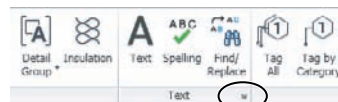

Figure 1.12
- Dialog launcher buttons that allow you to open another dialog box to define additional options or settings to complete a task. The dialog launcher buttons are the small icons to the far right of a panel on the same line as the panel name (Figure 1.12).